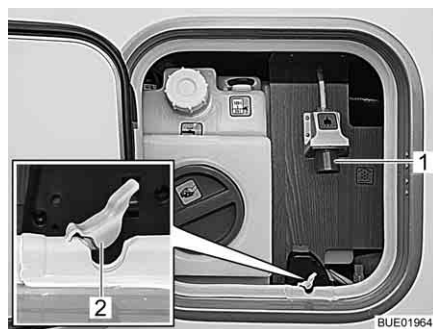

Fig. 170 230 V connection on vehicle
- Open the seal (Fig. 170,2) of the cable feedthrough.
- Plug the plug connector into the 230 V connection (Fig. 170,1) of the vehicle.
- Unplug the plug connector from the connection (Fig. 170,1) of the vehicle and remove the connecting cable.
- Press the seal (Fig. 170,2) of the cable feedthrough into the recess of the service flap gasket.